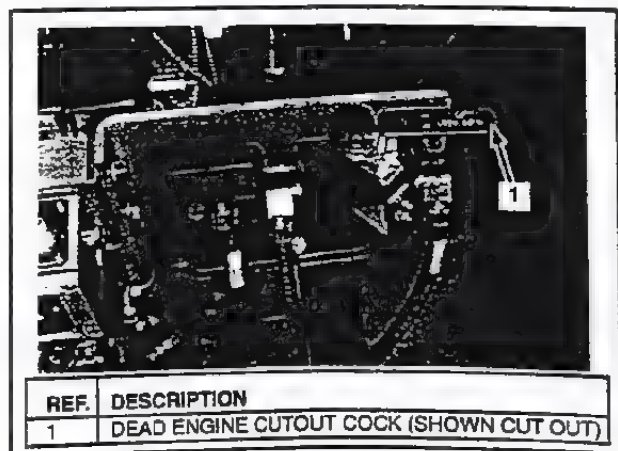

FIG. 18. DEAD ENGINE CUT-OUT COCK.
7. Cut-in the Dead Engine Cut-Out Cock (Item 1, Fig. 18) through hatch (Item 8, Fig. 3) and charge the brake-pipe.